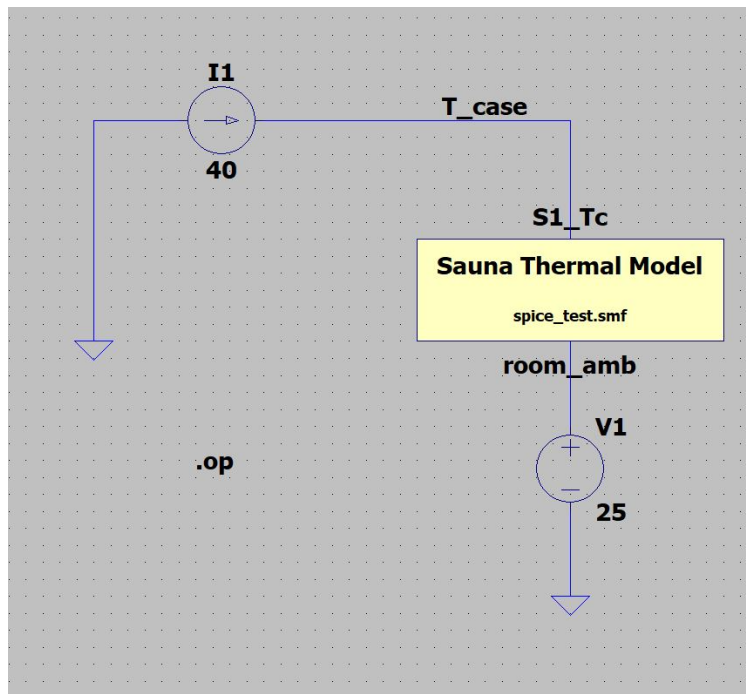

Figure 3: First LTspice schematic
You will start by creating the simple schematic shown in Figure 3. With this circuit, you will be able to verify that LTspice and Sauna produce the same result.
If you are an experienced LTspice user, just go ahead and create the circuit shown in Figure 3.
5. Click the Component icon again. Scroll to the left and select current, then click the Place button. Prior to final placement, use <Ctrl>-r to rotate the current source. Then move to the position shown in Figure 3 and click. Hit <Esc> or right-click to stop placement. **For LTspice, wattage is represented as an electrical current.**
7. Figure 3 shows 2 grounds. Click the Ground icon and place the grounds in the appropriate position. When finished, hit <Esc> or right-click.
10. Finally, note that the letters ".op" are shown in the lower-left of Figure 3. This is known officially as a Spice directive but is generally referred to as a dot command (much easier to say). The .op command tells LTspice to perform a DC analysis (operating point), the equivalent of a steady state thermal analysis. Click the dot command icon and enter .op in the box, then click OK. Place the command in the appropriate location.